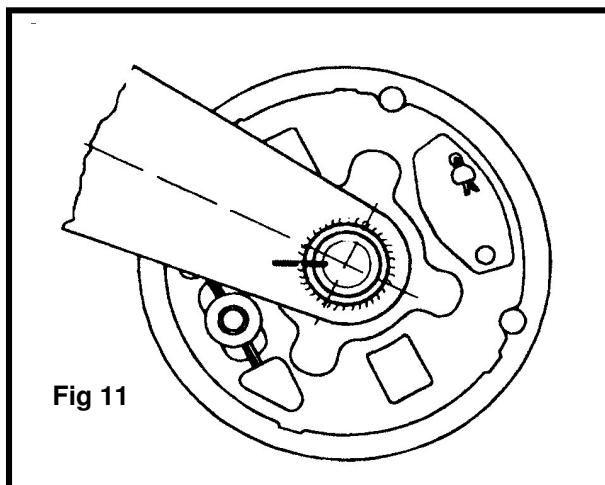

Fig 11
- Mark the position of the plastic cap on the swing arm with a felt tip pen so that any movement on the stub axle can be detected (Fig 11)